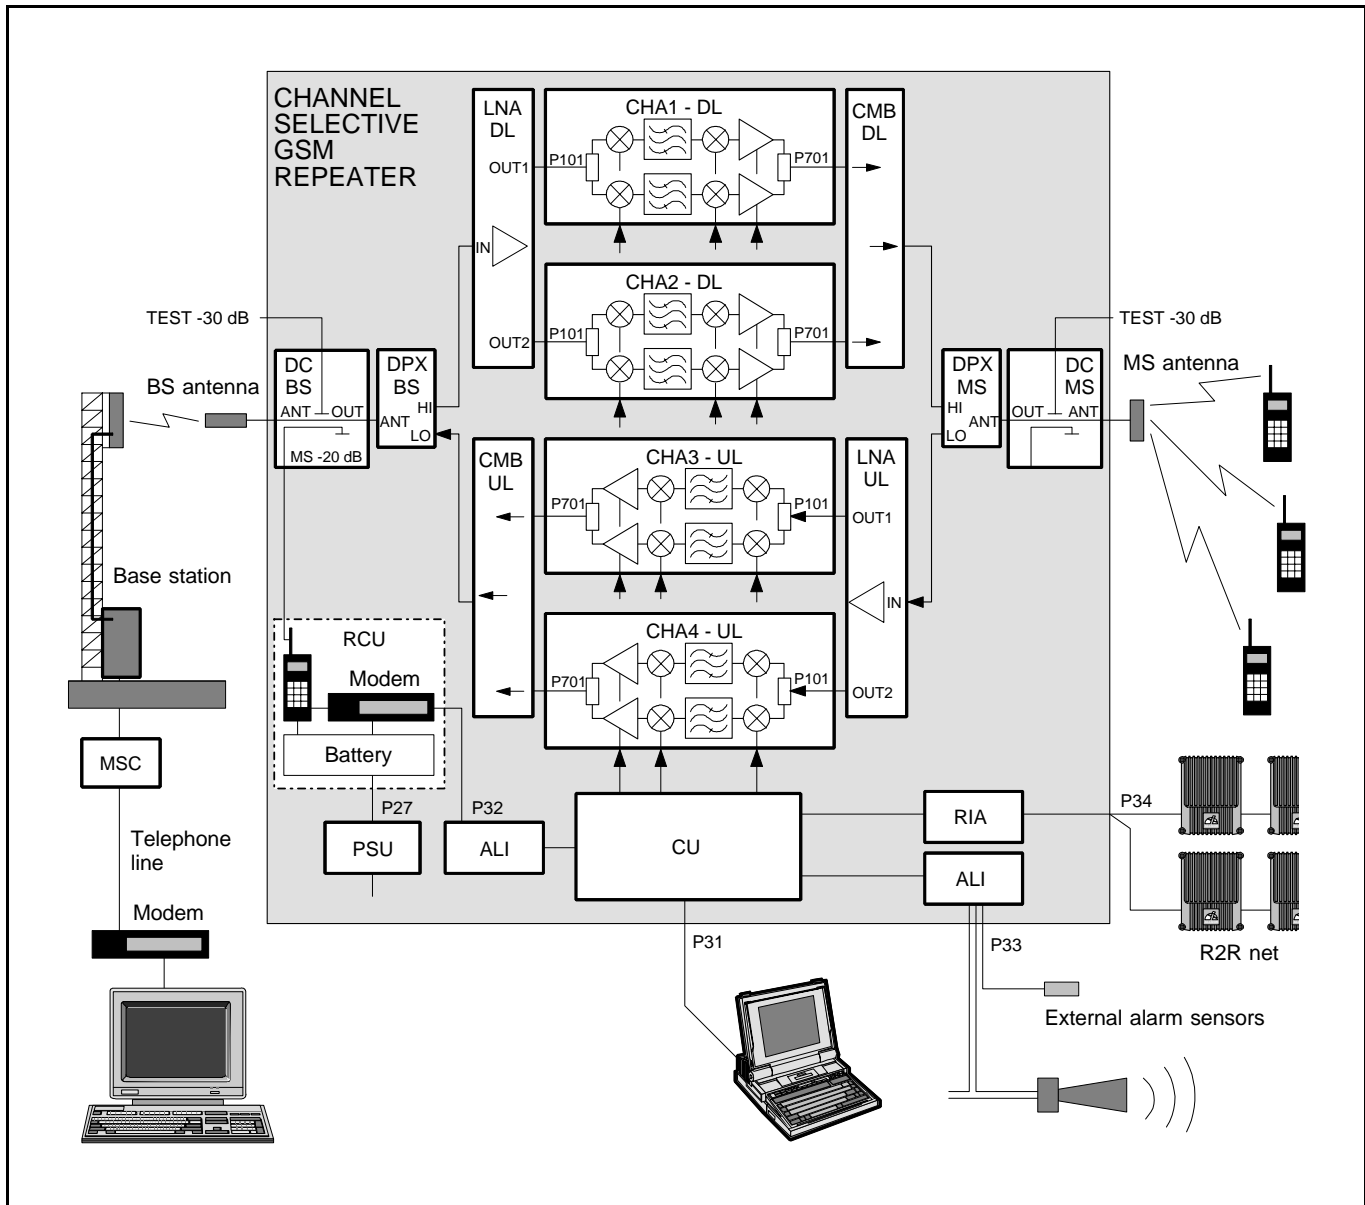
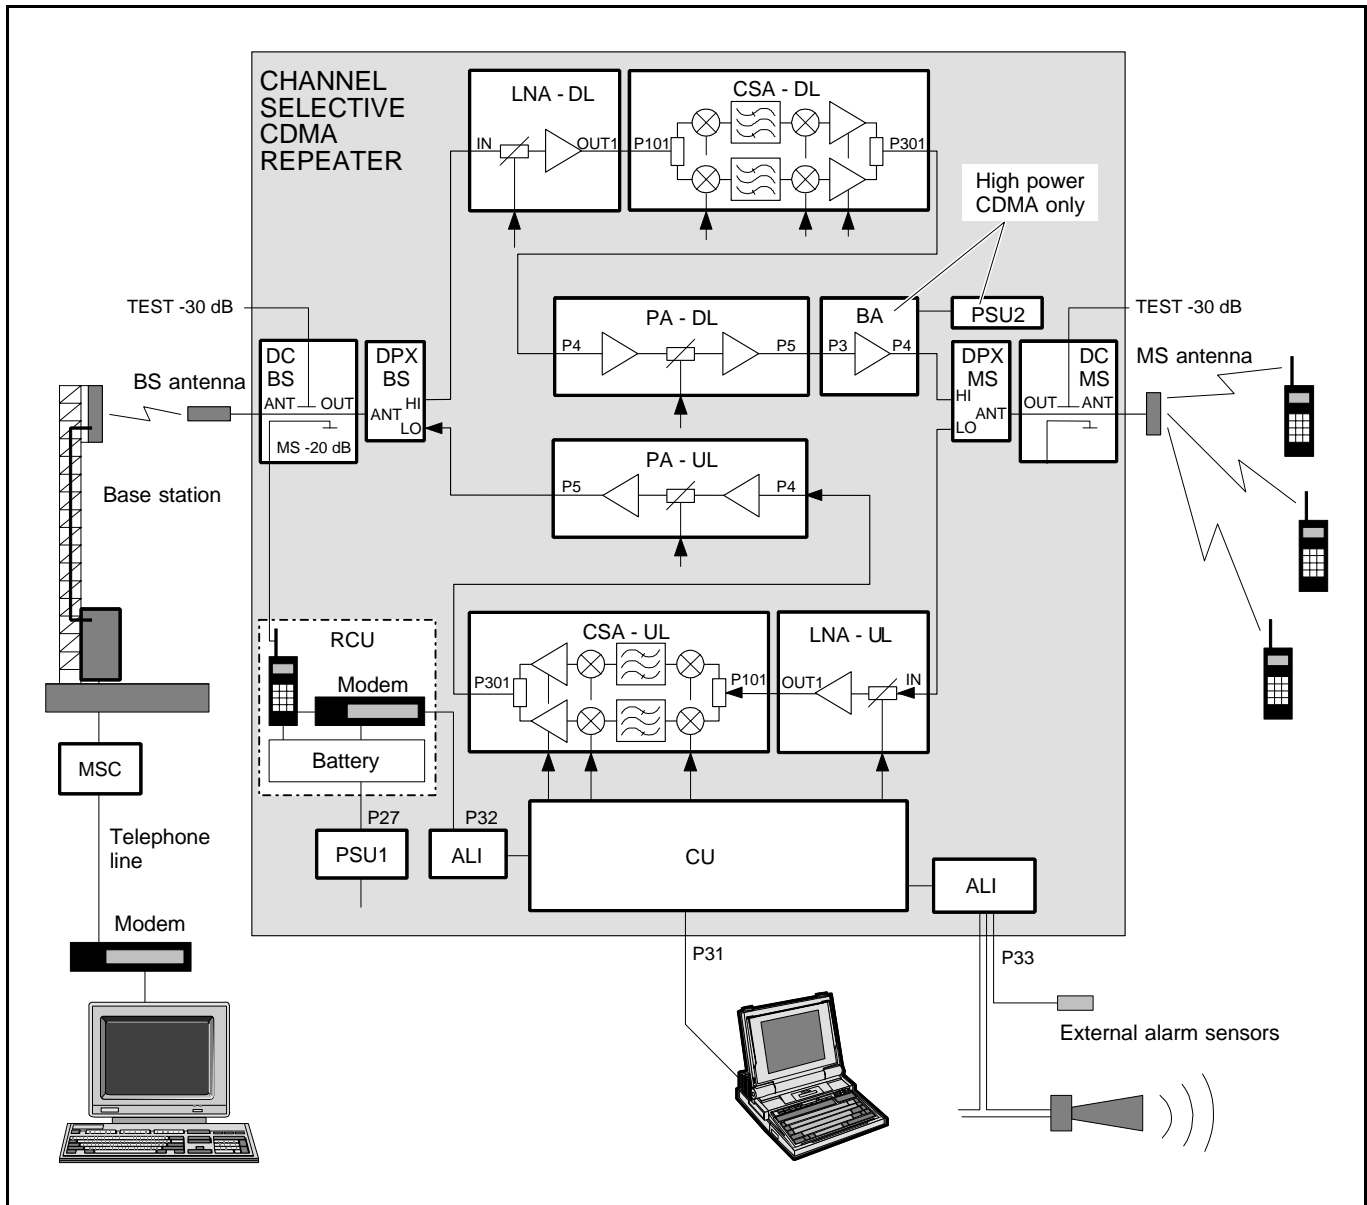
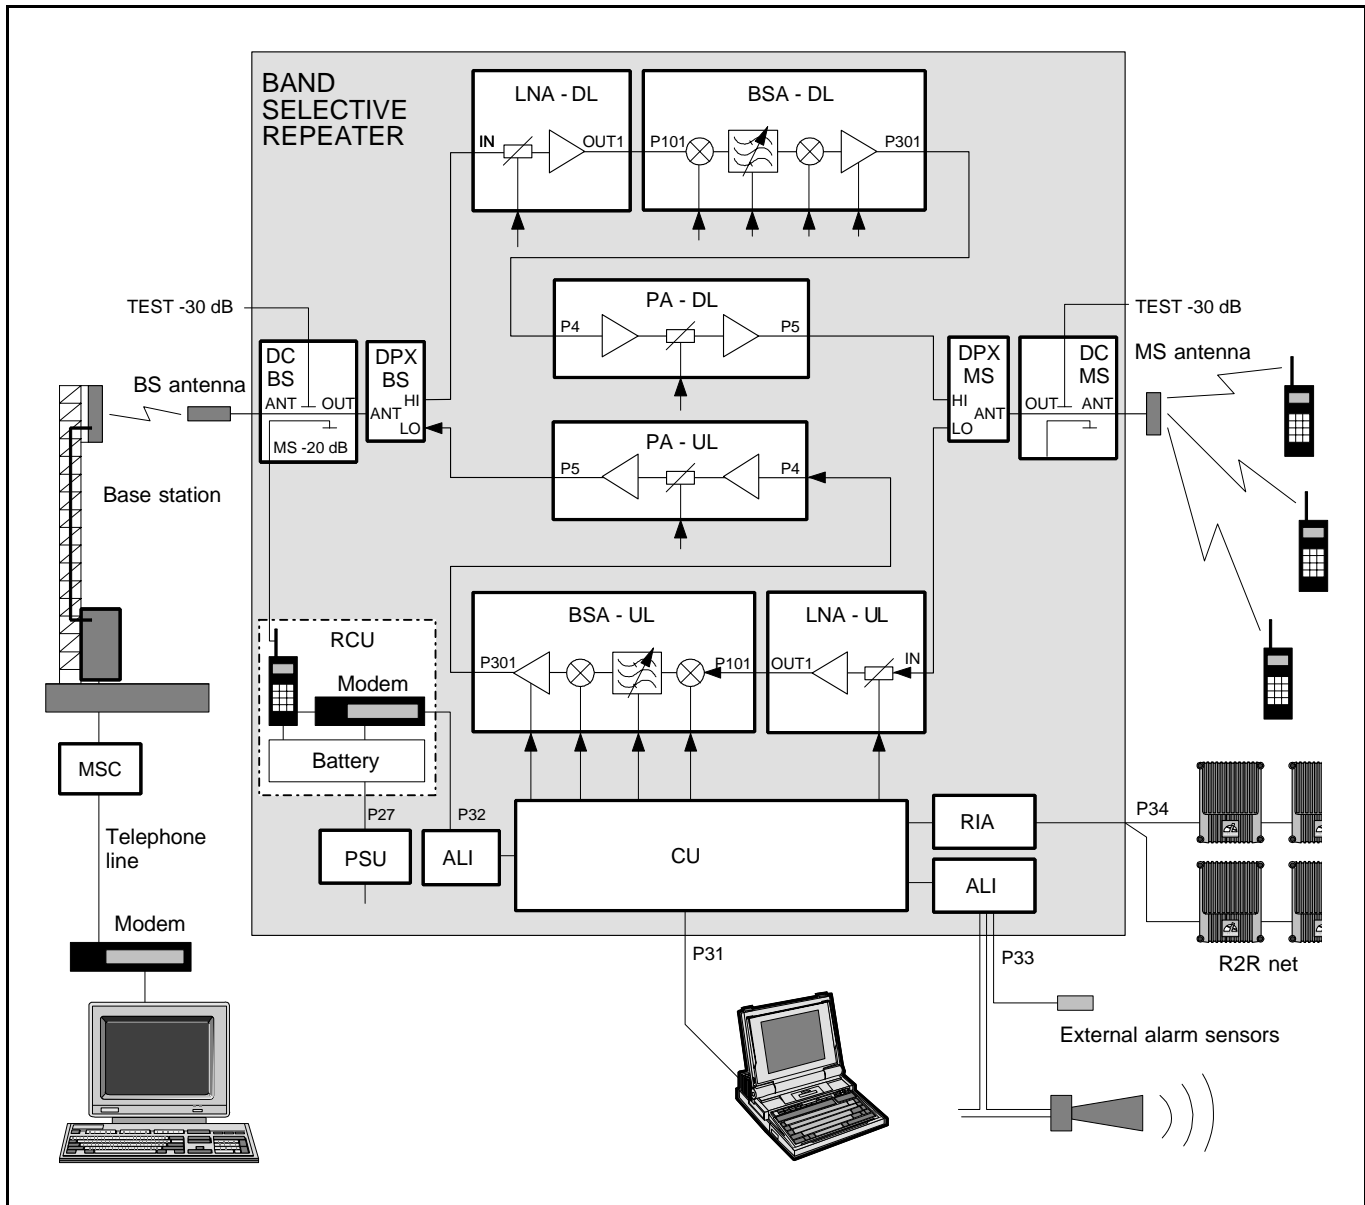

Figure 5-6. Block diagram, channel selective repeater
Figure 5-7. Block diagram, CDMA repeater
Figure 5-8. Block diagram, band selective repeater
- Channel selective GSM repeater, Figure 5-6 on page 5-10.
- Channel selective CDMA repeater, Figure 5-7 on page 5-12.
- Band selective repeater, Figure 5-8 on page 5-14.
Figure 5-6 shows a block diagram of a channel selective repeater with four bi-directional channels. This diagram is applicable to repeaters for the GSM, DCS, PCN and GSM 1900 (PCS) systems.
Figure 5-7 shows a block diagram of a channel selective CDMA repeater. This diagram is applicable only to repeaters for the CDMA system.
Figure 5-8 shows a block diagram of a band selective repeater. This diagram is applicable to repeaters for e.g. NMT, TACS, ETACS, AMPS, DAMPS and CDMA systems.
The repeater parameters can be set locally by means of a desktop or notebook loaded with the OMT32 software (or the OMS software). The PC or notebook is connected to the CU via the P31 PC port (see Figure 5-6, Figure 5-7 and Figure 5-8).
The repeater parameters can also be set remotely by means of a phone (mobile or via a telephone line) and a modem connected to the CU board via the P32 modem port (see Figure 5-6, Figure 5-7 and Figure 5-8).